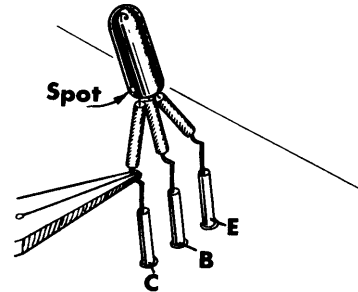

FIG.5
- () Bend the wires of each transistor to form a hook at the ends, see Figure 5.
If a transistor has to be removed or replaced, a heat shunt, such as a pair of pliers, must be used as shown in Fig. 5.